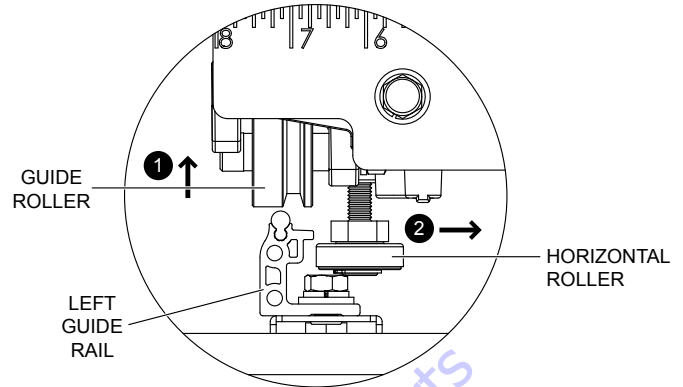

**Figure 23. Roller Clearance**
1. Use the universal wrench to loosen (but not remove) the fasteners from either end of both guide rails. Move each rail away from the other, so that the horizontal rollers are clear of the right guide rail. See Figure 23.